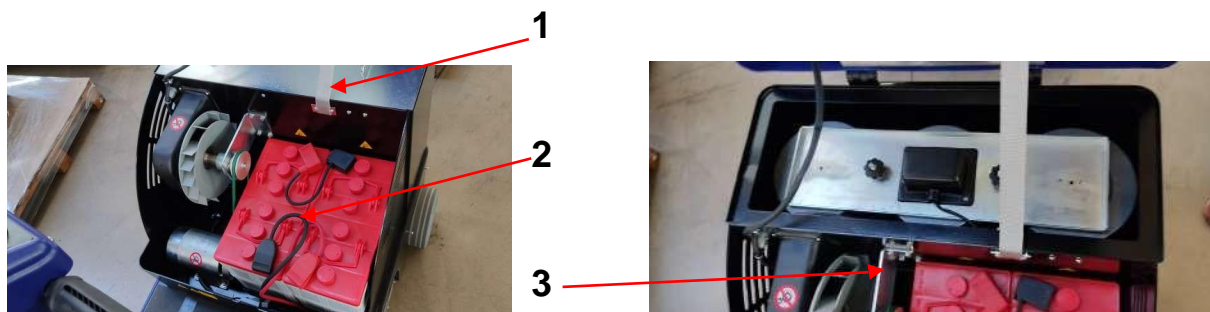

Figure 4.7.6
- Lift the seat cover to expose the battery compartment and filter shaker housing (figure 4.7.6 detail 1)
- Remove the protection panel (figure 4.7.6 detail 2)
- Remove the four knobs (figure 4.7.6 detail 3) and pull the filter shaker motor out